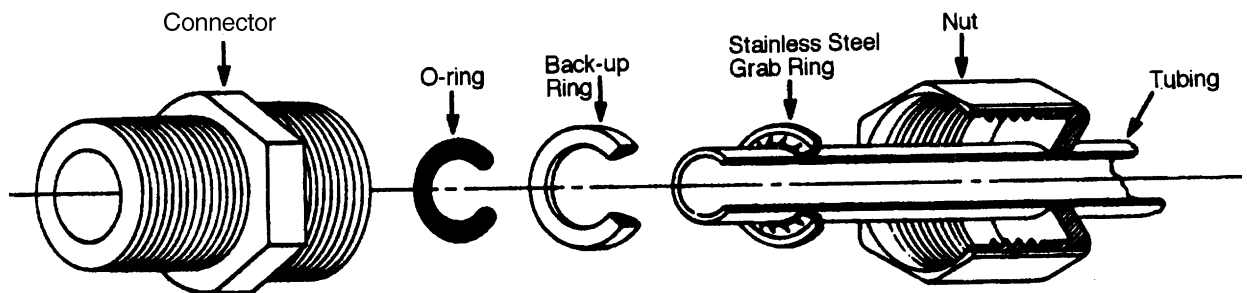

Figure 4-1. Tubing Adapter Installation
1. Completely disassemble the fitting. Refer to Figure 4-1 to familiarize yourself with the names of the component parts.
3. Place the grab ring and backup ring in the hex nut in the order and orientation shown in Figure 4-1. Thread the nut into the adapter. **DO NOT** use the o-ring at this time.